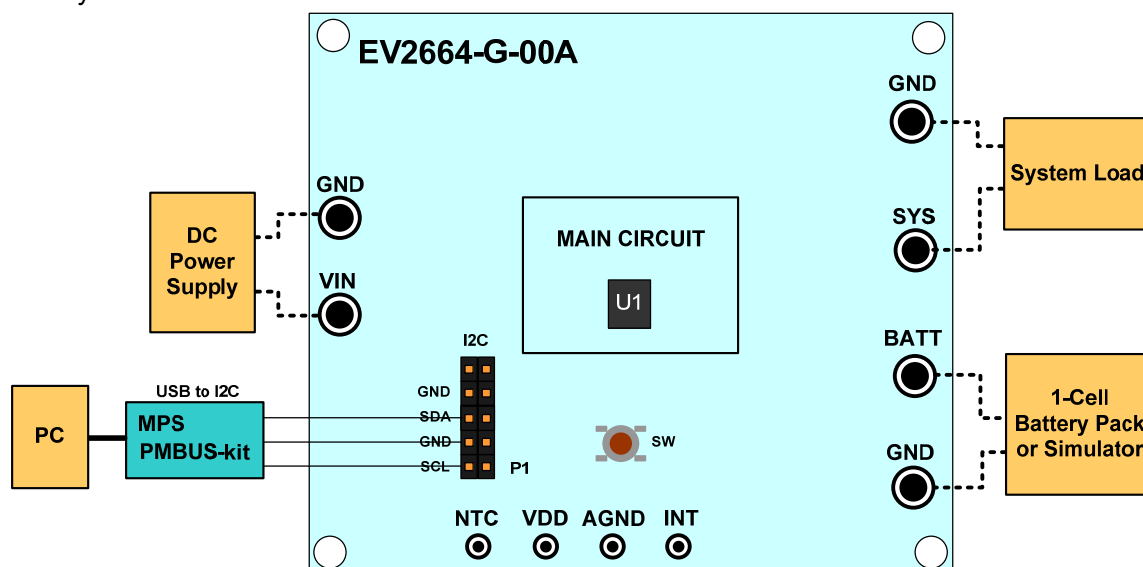

Figure 6: Test Setup for MP2664
4) Original Test Setup for MP2664 in Figure 6